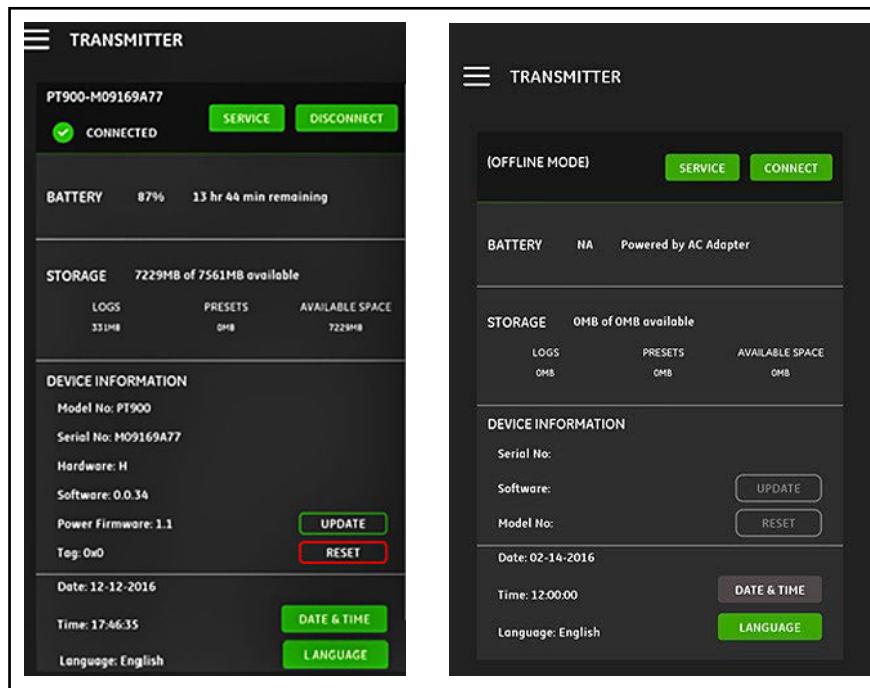

Figure 118: CONNECTED (Left) and OFFLINE (Right) Menus
IMPORTANT: Before creating a new log, be sure to synchronize the transmitter and the tablet time settings by clicking the DATE & TIME button in the TRANSMITTER menu (see *Figure 118 on page 90*).
1. Be sure the transmitter and tablet time settings are synchronized by setting the transmitter time in the TRANSMITTER > DATE & TIME menu (see *Figure 118 on page 90*).
If a PT900 transmitter is CONNECTED to the tablet APP via Bluetooth, the TRANSMITTER menu shows device information about the PT900 transmitter, the battery and the memory usage. However, if the connection is OFFLINE, this information is unavailable. See examples of both possibilities in *Figure 118* below.
7. Go to the TRANSMITTER menu (see *Figure 118* on page 90) and verify that the device information is correct.